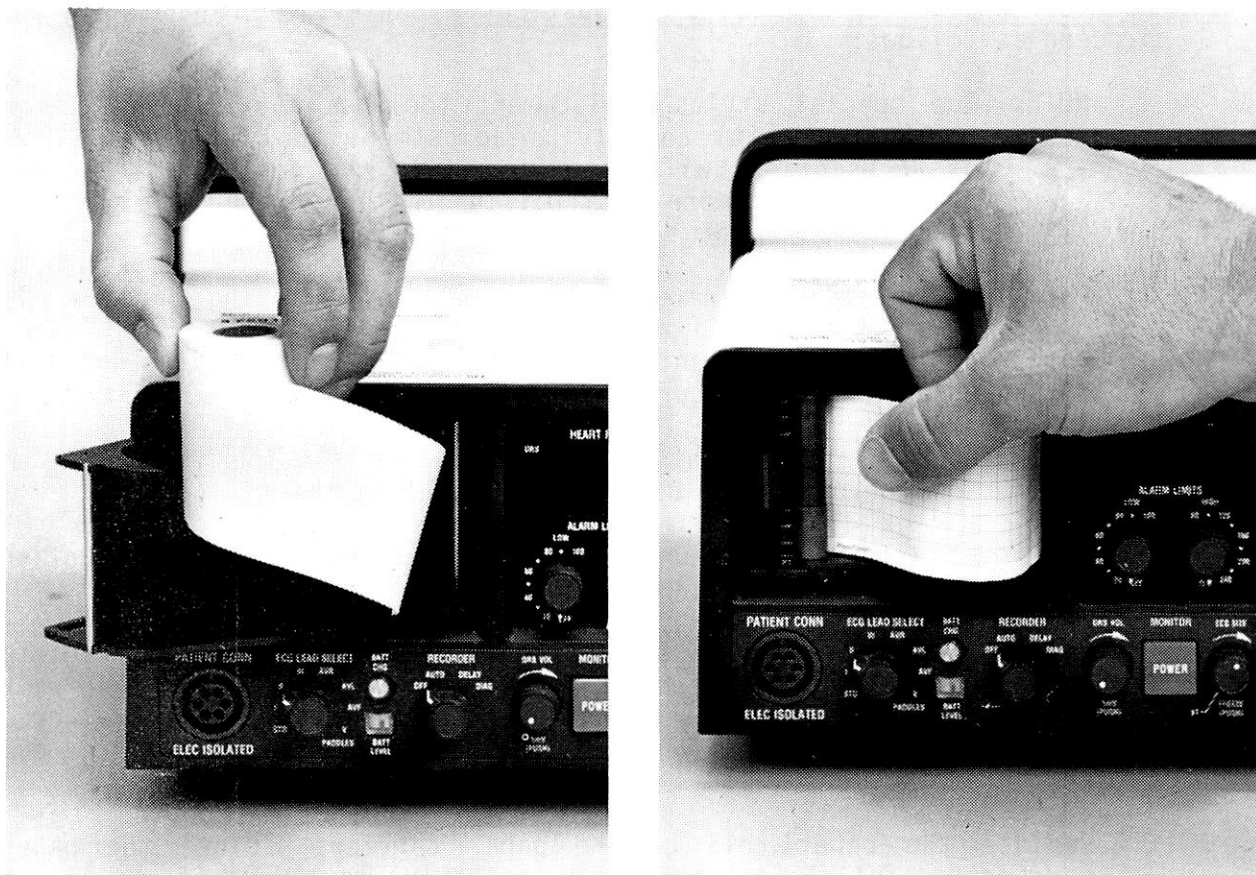

FIGURE 2-6. RECORDER PAPER REPLACEMENT
- 2-11. Recorder Paper Replacement. Refer to Figure 2-6 and proceed as follows.